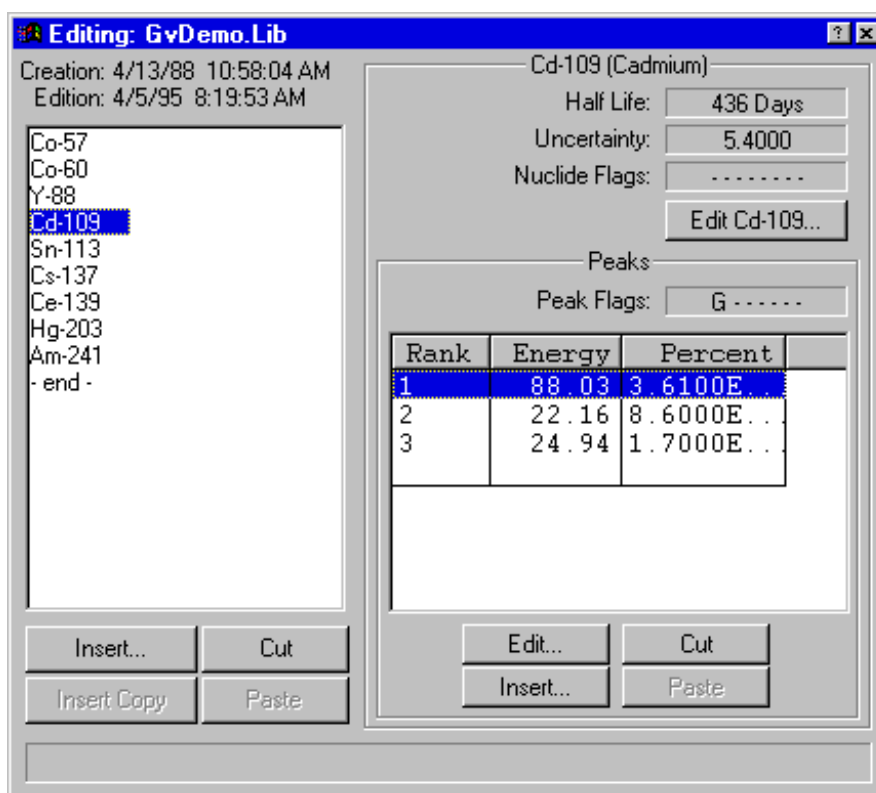

Fig. 115. Editing Library Dialog.
Figure 115 shows the library Editing dialog.
1. Click on the nuclide to highlight it. The **Edit...** button (in the upper right of Fig. 115) will change to **Edit** plus the name of the nuclide, as shown in Fig. 119.